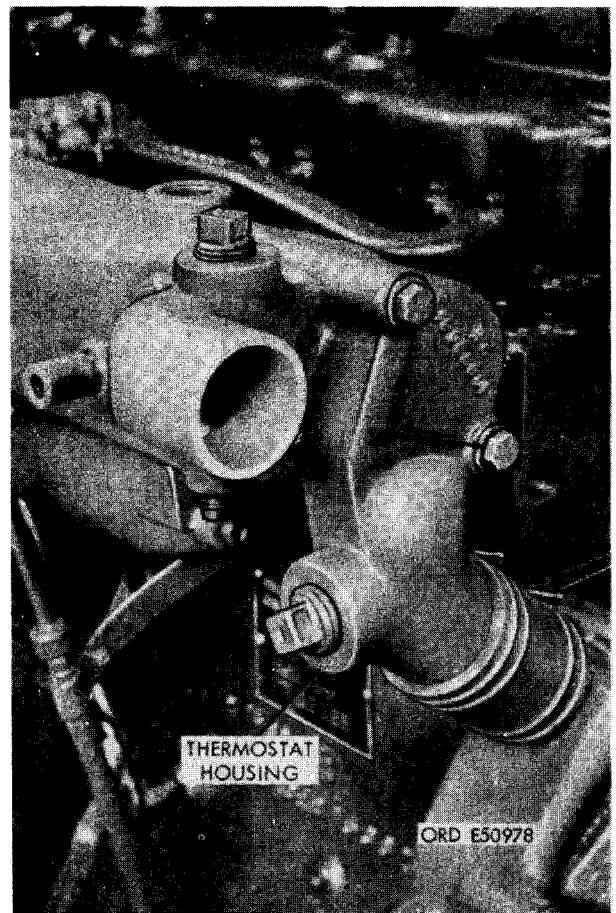

FIGURE 109. THERMOSTAT HOUSING - INSTALLED VIEW.
- (1) Figure 109. (A) Remove two 3/8 x 3-5/8 cap screws and 3/8- inch plain washers securing thermostat housing assembly to intake manifold. (B) Loosen two 2- inch clamps securing thermostat housing-to- water pump hose.
- b. Installation.** Refer to figures 109 through 111 and reverse the sequence of illustrations and instructions to install a new thermostat and/or seal. Install a new intake manifold-to-thermostat housing gasket.